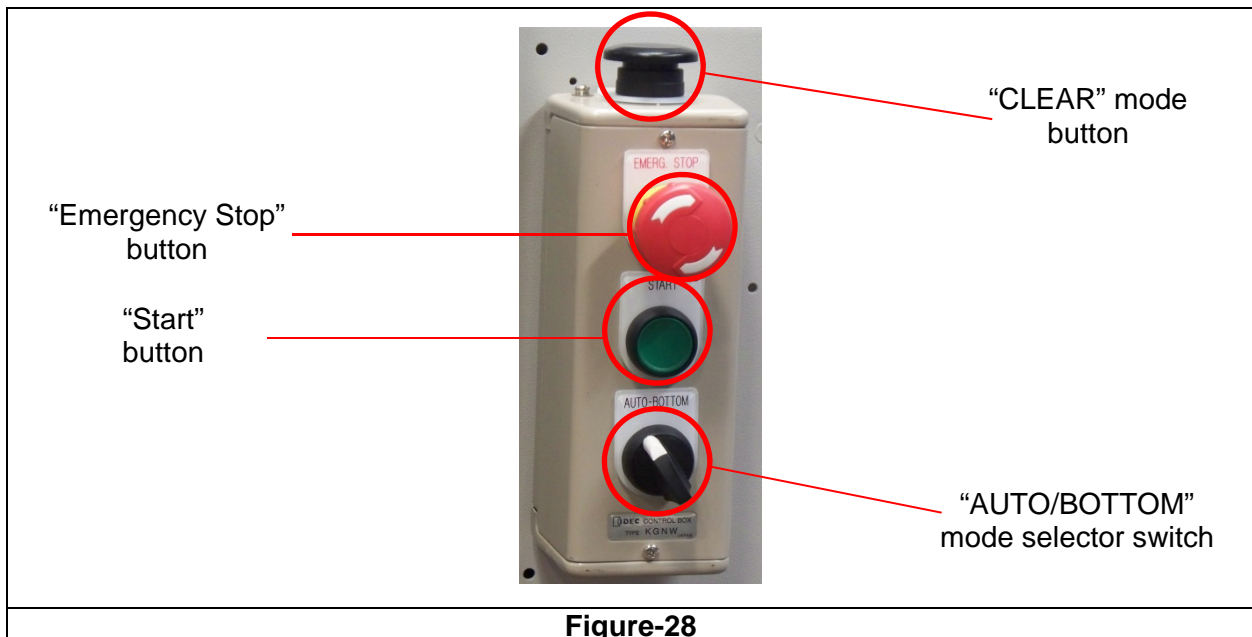

Figure-28
The RSA 2024-SB Case Sealer has three operating modes. The operator selects these modes, using the 2-position switch and push button located on the Control Box. Refer to **Figure-28**.
2. Turn the selector switch on the control box (**Figure-28**) to "AUTO" (Automatic).